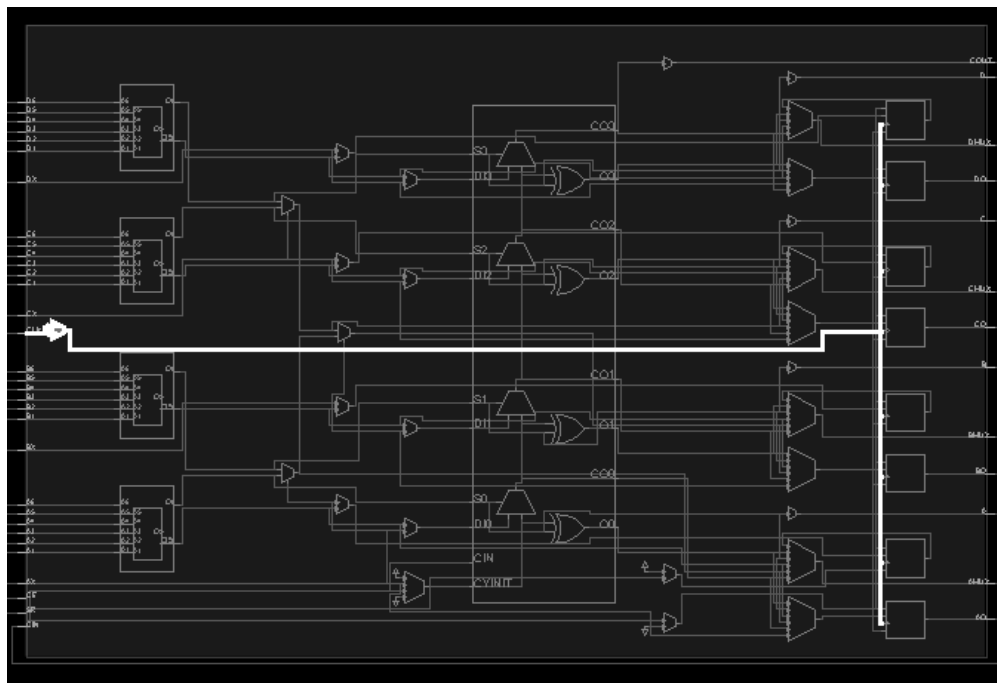

Figure 15: A SLICEL clock inverter mux. The highlighted white portion of the figure shows the connection of the clock inverter.
- Some properties not only affect how a `Cell` is configured, but they can also affect how a `Site` is configured. For example, on SLICEL sites there exists a clock routing mux that chooses between a regular clock signal and an inverted signal (Figure 15). The output of this inverter is connected to all flip flops of the SLICEL, and so decides whether the flip flops are all rising-edge or all falling-edge triggered. The clock that is selected is decided by the property “IS_C.INVERTED” of the flip flops cells **that have been placed onto the SLICEL**. The clock inverter is programmed automatically based on the cell properties. There are other such properties, but they will not be listed here. When creating designs in RapidSmith, it is important to not place `Cells` together that may have conflicting properties. RapidSmith does not perform any error checking, and so an error in Vivado will be thrown if you violate property restrictions.